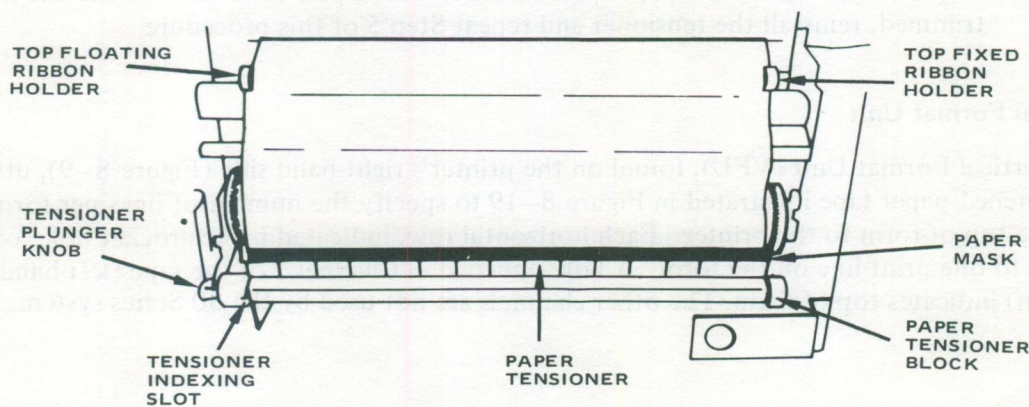

Figure 8-17. Drum Gate with Ribbon Installed
7. Install the paper tensioner by inserting the paper tensioner block into position. Push the tensioner against the tensioner knob indexing slot while pulling the knob to allow slot engagement. Once the tensioner is engaged, release the knob. Figure 8-17 shows the ribbon and tensioner completely installed.
A plastic paper mask is provided on the printer paper tensioner (Figure 8-17) to prevent contact between the ribbon and paper prior to printing. During normal operation, the mask may require replacing as described in the following steps: